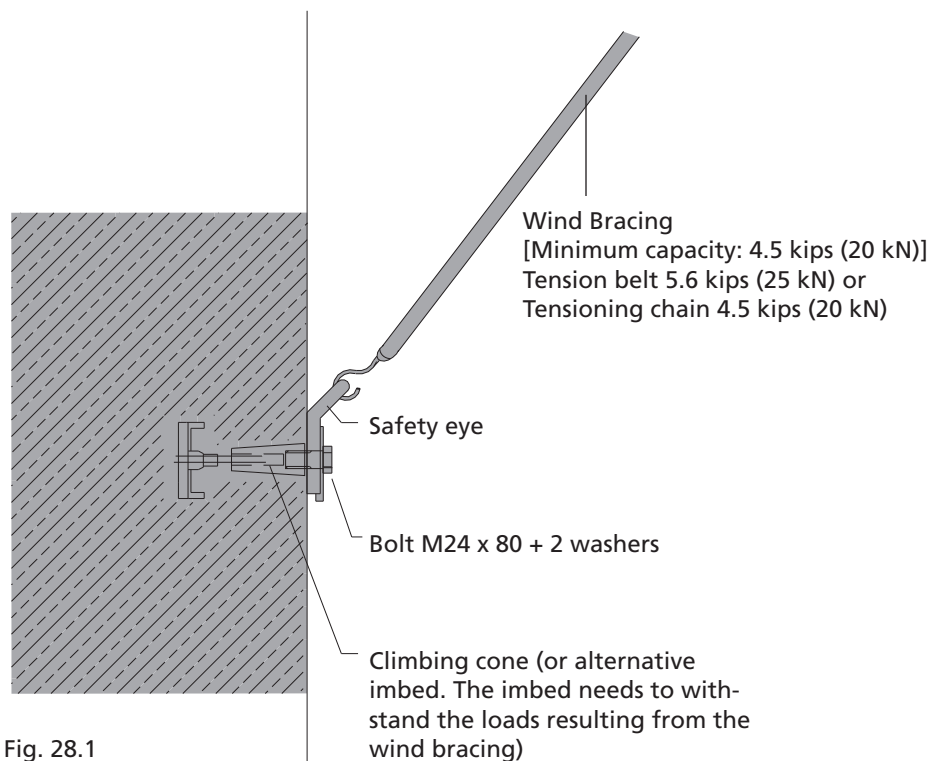

Fig. 28.1
The safety eye is attached to the climbing cone by using the bolt M 24 x 80 and two (2) washers M24 (Ref.-No. 62-030-50) (Fig. 28.1).